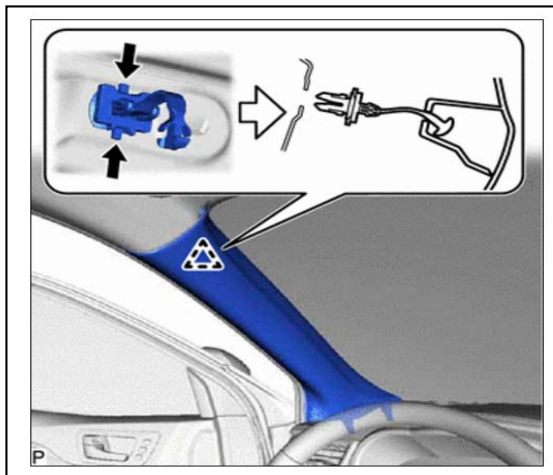

Figure 23
- c. While pushing the tabs of the front pillar garnish clip (A) in the direction indicated by the arrow shown in Figure 23, disengage the front pillar garnish clip (A).